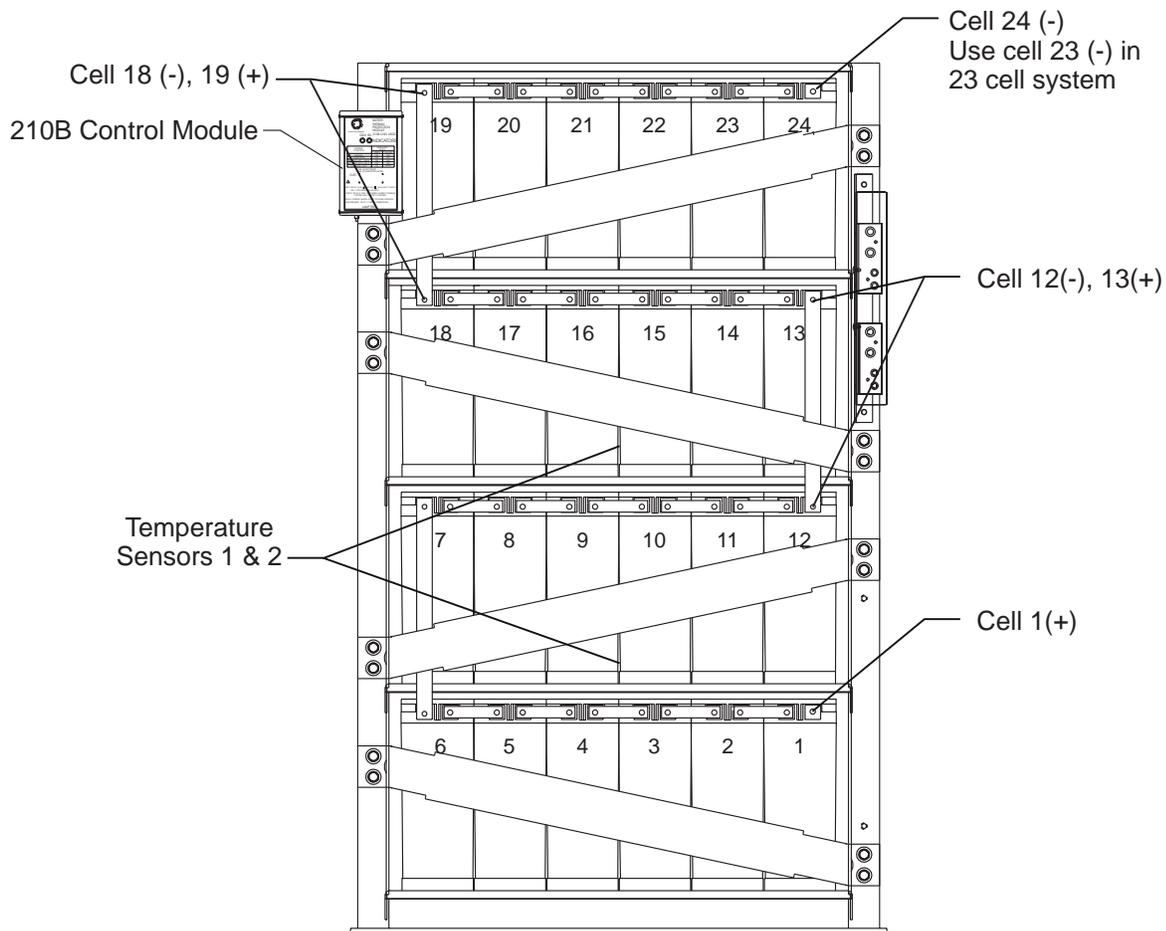

Figure 2-2: Thermistor Locations in VR Batteries
Figure 2-2: Thermistor Locations in VR Batteries	2 - 2
4. Insert the thermistors in the battery locations to be monitored. See Figure 2-2 for locations between Lucent Technologies VR batteries.